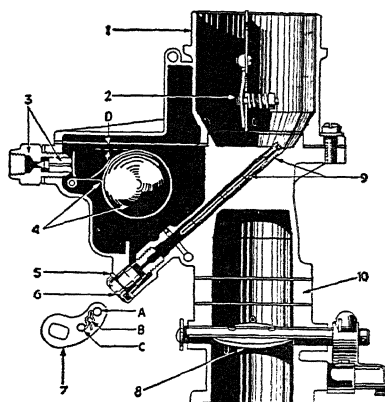

Fig. 92. Side Cross Section of Plymouth-Chrysler Carburetor
For extremely warm weather or for high altitudes (above 3000 feet) the accelerating pump link should be placed in the hole *C*, Fig. 92, in the accelerating pump lever 7, which is closest to the pump lever shaft. This gives the shortest stroke of the accelerating pump. For normal summer driving, the pump link should be in the middle hole *B*, in the lever. For extremely cold weather operation, the pump link should be in the pump lever hole *A*, which is farthest from the shaft.
**Fuel Level.** The fuel level in the float chamber is controlled by the position of the float. The top of the float is set  $\frac{1}{16}$  inch, dimension *D*, Fig. 92, below the surface of the float chamber (without gasket) with the engine idling. It should not be necessary to disturb this adjustment unless the float or the float arm has become damaged by rough handling. If it is necessary to correct the float level, it may be done by bending the float arm near where the arm is fastened to the float.